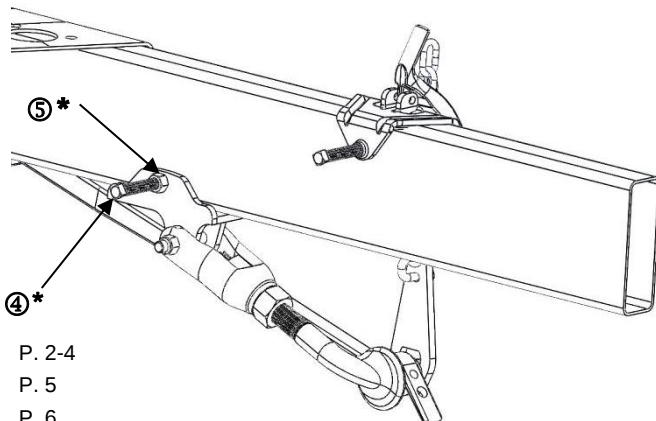

Figure 2
- Position the Chain Hanger temporarily above the cam arm. (Upon hook-up, the Hanger position must be adjusted to be sure the chain is vertical before towing). Tighten the Chain Hanger bolt shown in figure 2 against the frame.